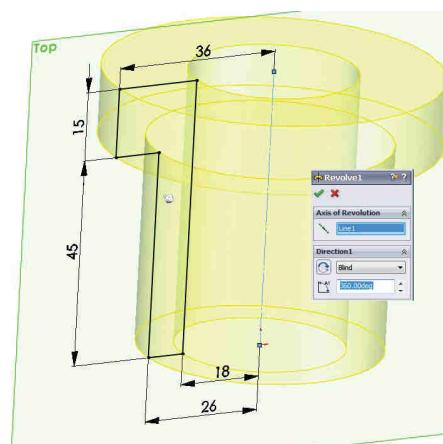

Fig. 1.11
- In caseta **Boss-Extrude** PropertyManager, sub zona **Direction 1** se va completa, fig. 1.11:
- In the PropertyManager, under **Direction 1**, fig. 1.11: